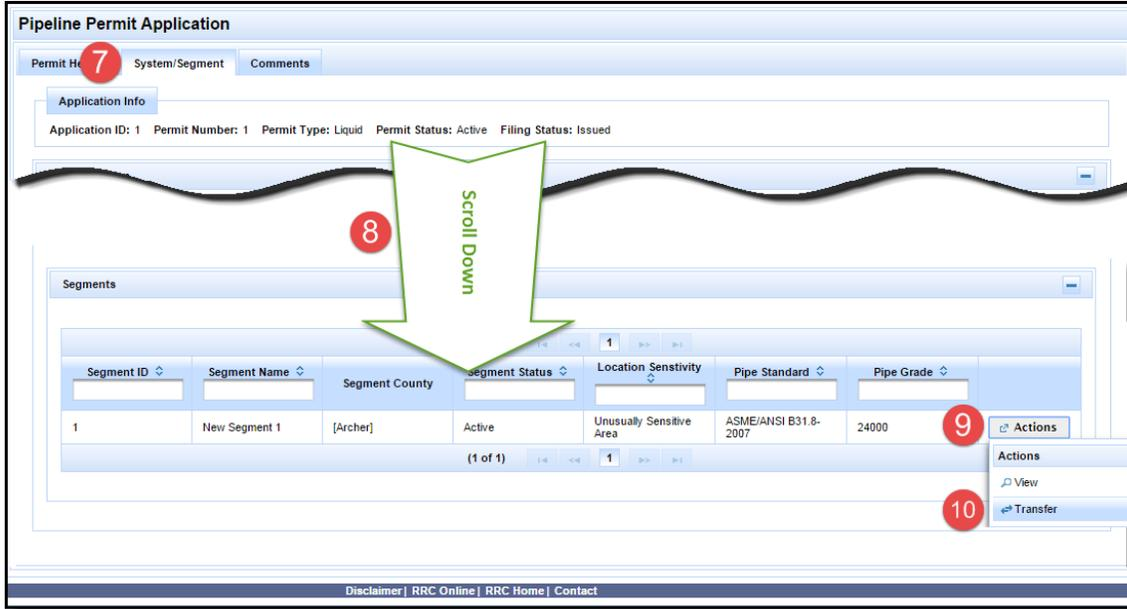

Figure 68: Transfer a Segment, Steps 7 to 10
8. Scroll down to the Systems section at the bottom of the **System/Segment** tab, as shown in Figure 68.